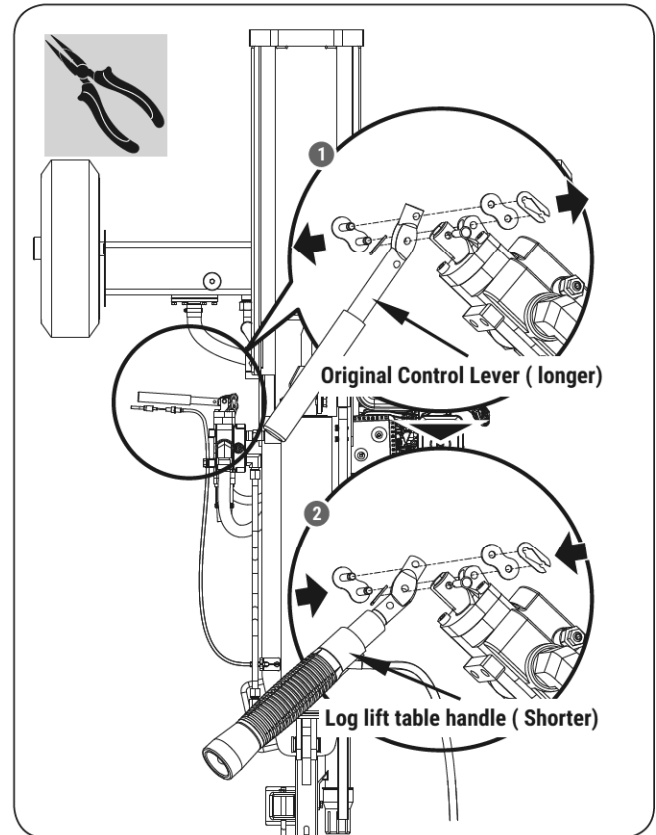

Figure 4
1. Disassemble the original long control lever (See **Figure 4, illustration 1.**), assemble the shorter log lift table control lever instead with the same hardware parts (See **Figure 4, illustration 2.**)